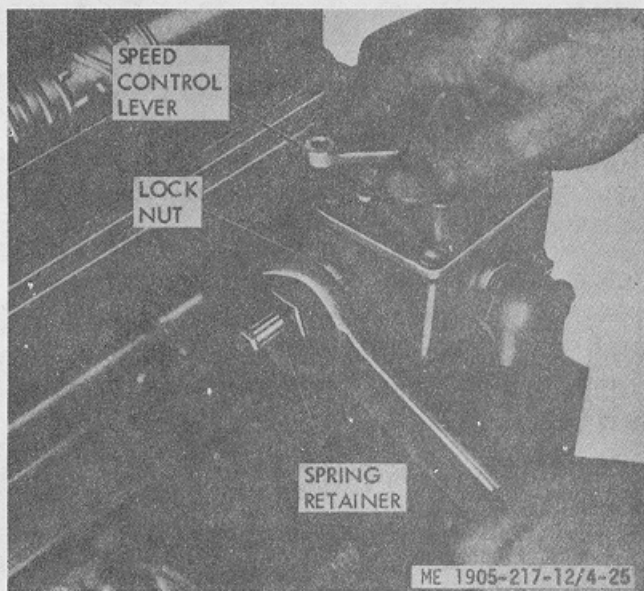

Figure 4-29. Pilot house engine control system, hull numbers 8500 thru 8519.
a. *General.* Hull numbers 8500 thru 8519 are equipped with a model MD engine control system which consists of a pilot house control head, terminal blocks, elbows, engine control unit, conduit, and cable as shown in figure 4-29. The twin engine control is designed to allow the operator to control both propulsion units with one hand. Clutch action occurs in the first 30° of the travel each side of neutral, while the remaining 600 of travel provides governor control from idle-to-full ahead or astern. Separate neutral throttle controls and separate stop controls for each engine are located on the pilot house control panel.